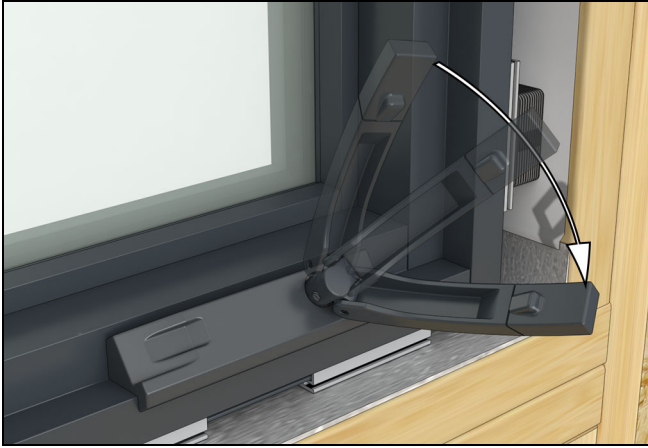

Figure 53
1. Seat the handle on the hardware spline. Turn the crank handle until the sash is completely closed. See Figure 53.